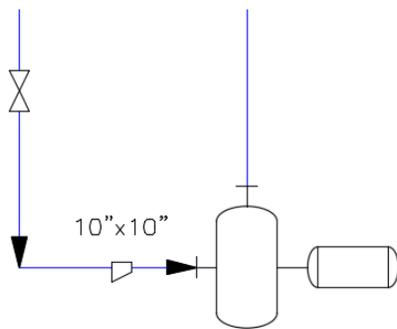

Figure 2-72 A gate valve placed on the line connecting the first pump
2. Place a gate valve on the same line, refer to Figure 2-72.